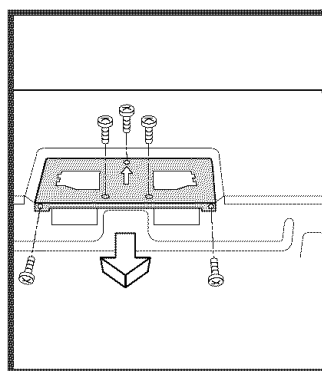

Figure 7
1. Remove 2 screws from back edge and 3 screws from the top center of Fan Cover Bracket. Save 2 screws to be used later and discard remaining 3. Remove Fan Cover Bracket by sliding it in the opposite direction of the arrow on the Fan Cover Bracket, as shown in Figure 7.